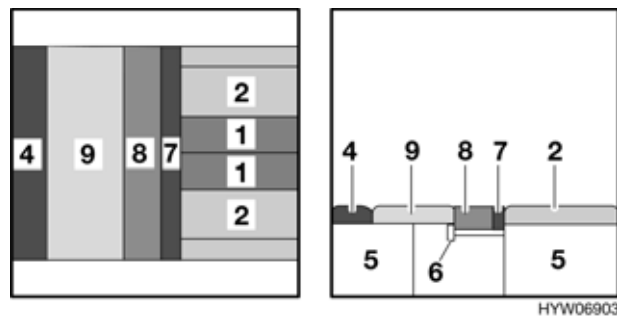

Fig. 86 After conversion
- Insert the additional cushion (Fig. 86,4) between the seat cushion (Fig. 86,9) and the exterior wall.
- Lay the back cushion (Fig. 86,8) and the additional cushion (Fig. 86,7) on both bedding box extensions.